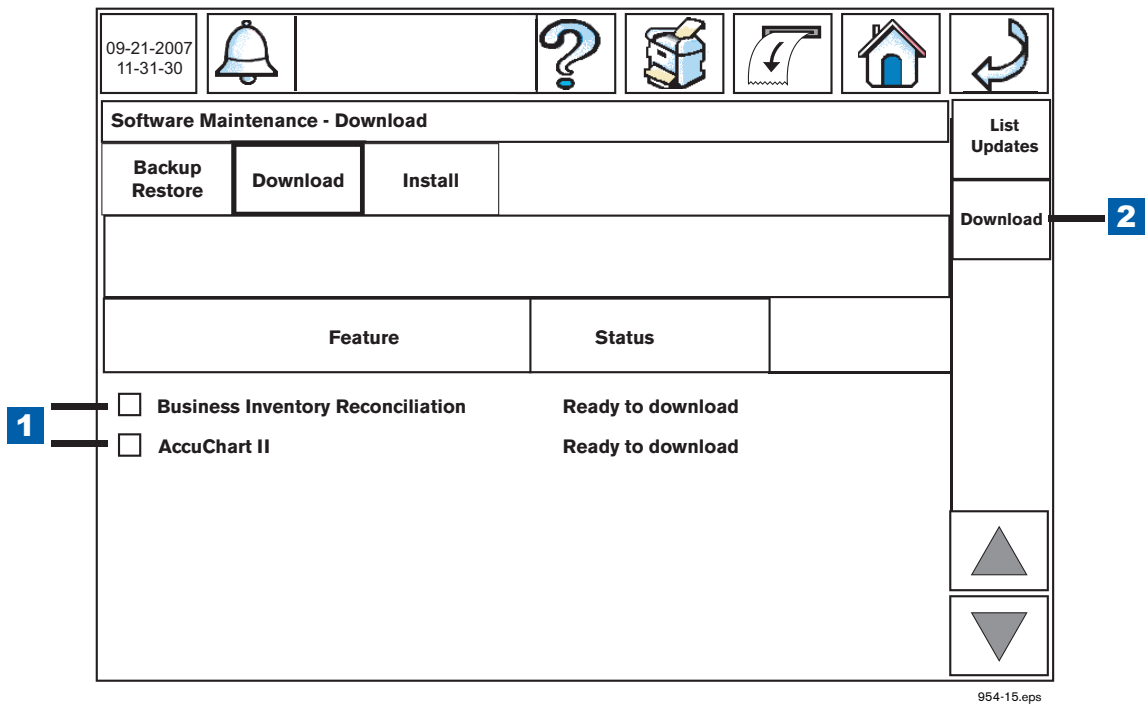

Figure 15. Downloading Software Features from the USB Adapter
- 3. When the Software Maintenance - Backup Restore screen displays touch the Download tab. Touch the check boxes beside the feature(s) you wish to download to the console from the i-button (item 1 in Figure 15).
- 4. Once you have selected the desired features to download, touch the Download button to begin the download process (item 2 in Figure 15).
LEGEND FOR NUMBERED BOXES IN Figure 15